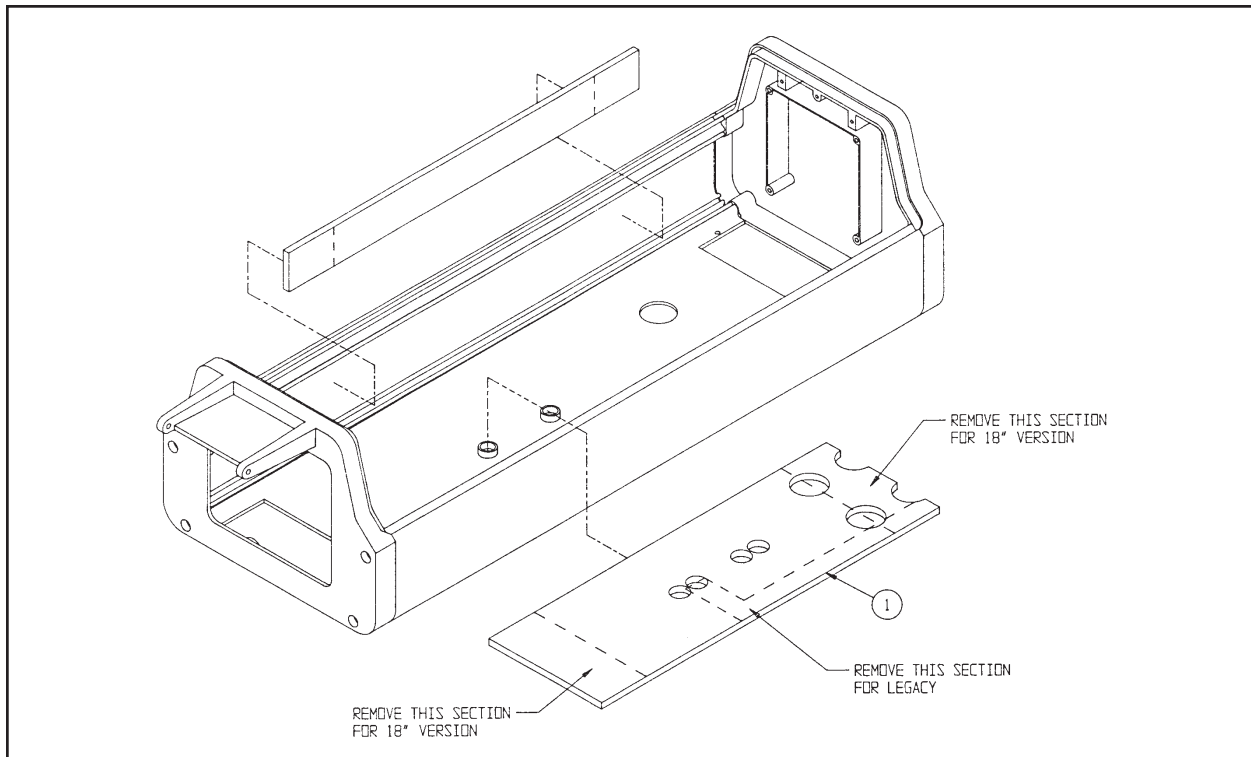

Figure 3. Installation of T147 Thermal Insulation
5. Then apply the side strip to the side of the enclosure body that does not contain the "T-slot". (See Figure 3.)